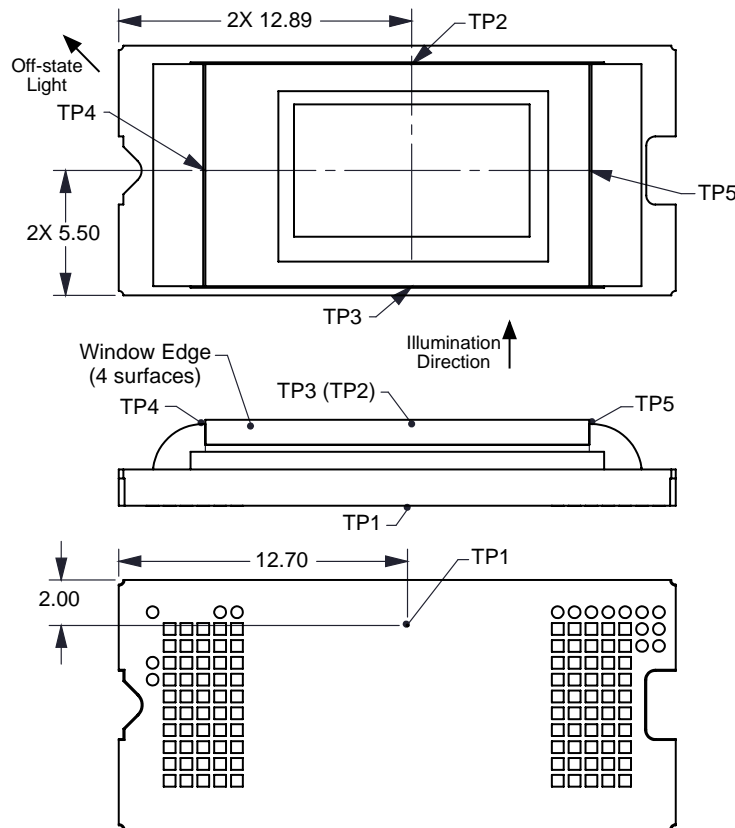

Figure 18. DMD Thermal Test Points
- T_{CERAMIC} = Measured ceramic temperature (°C), TP1 location in Figure 18
- Q_{ARRAY} = Total DMD power; electrical plus absorbed (calculated) (W)
- $Q_{\text{ELECTRICAL}}$ = Nominal DMD electrical power dissipation (W)